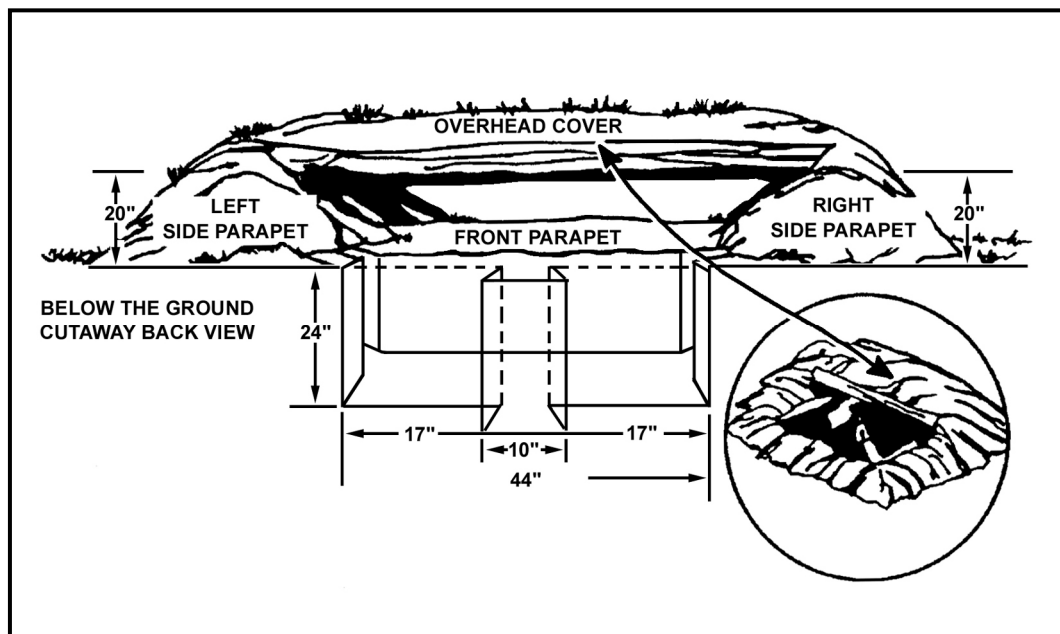

Figure 5-5. Storage/protective area.
- (1) Make the position 24 inches deep.
- (2) Make the parapet at least 18 inches thick to keep out small-arms fire and artillery fragments. It should provide 9 inches of muzzle clearance under the launch tube.
- (3) Do not place dirt or equipment in the backblast area.
- (4) Scoop out a place for the MGS either under or to the front of the tripod.
- (5) Dig a storage/protective area for the crew and missiles to one flank at a 90-degree angle to the primary direction of fire. Use the strongest material available for the roof. Put canvas or plastic down before throwing dirt on the roof to keep the ceiling from leaking. Place at least 20 inches of dirt on top of the storage/protective area (Figure 5-5)